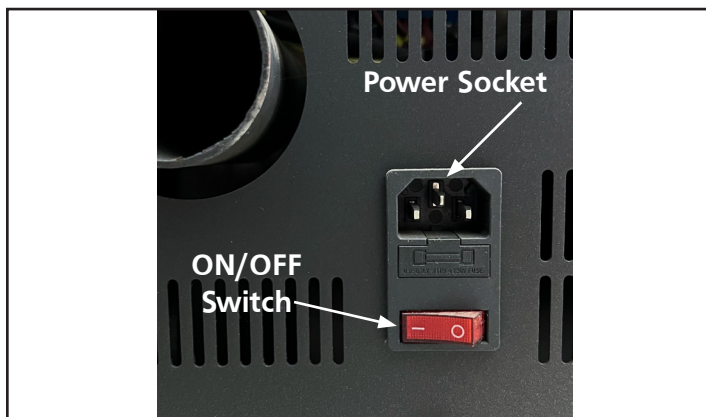

Figure 15 Power Socket/ON/OFF Switch
1. Plug power cord into socket on the rear bottom of stove and press the red ON/OFF toggle switch above it to ON. See Figure 15.